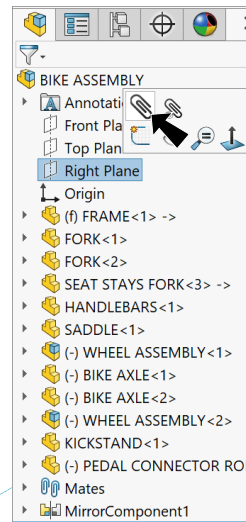

Fig. 14
Step 1. Click **Right Plane**  in the Feature Manager and **Mate**  on the context toolbar, **Fig. 14**.